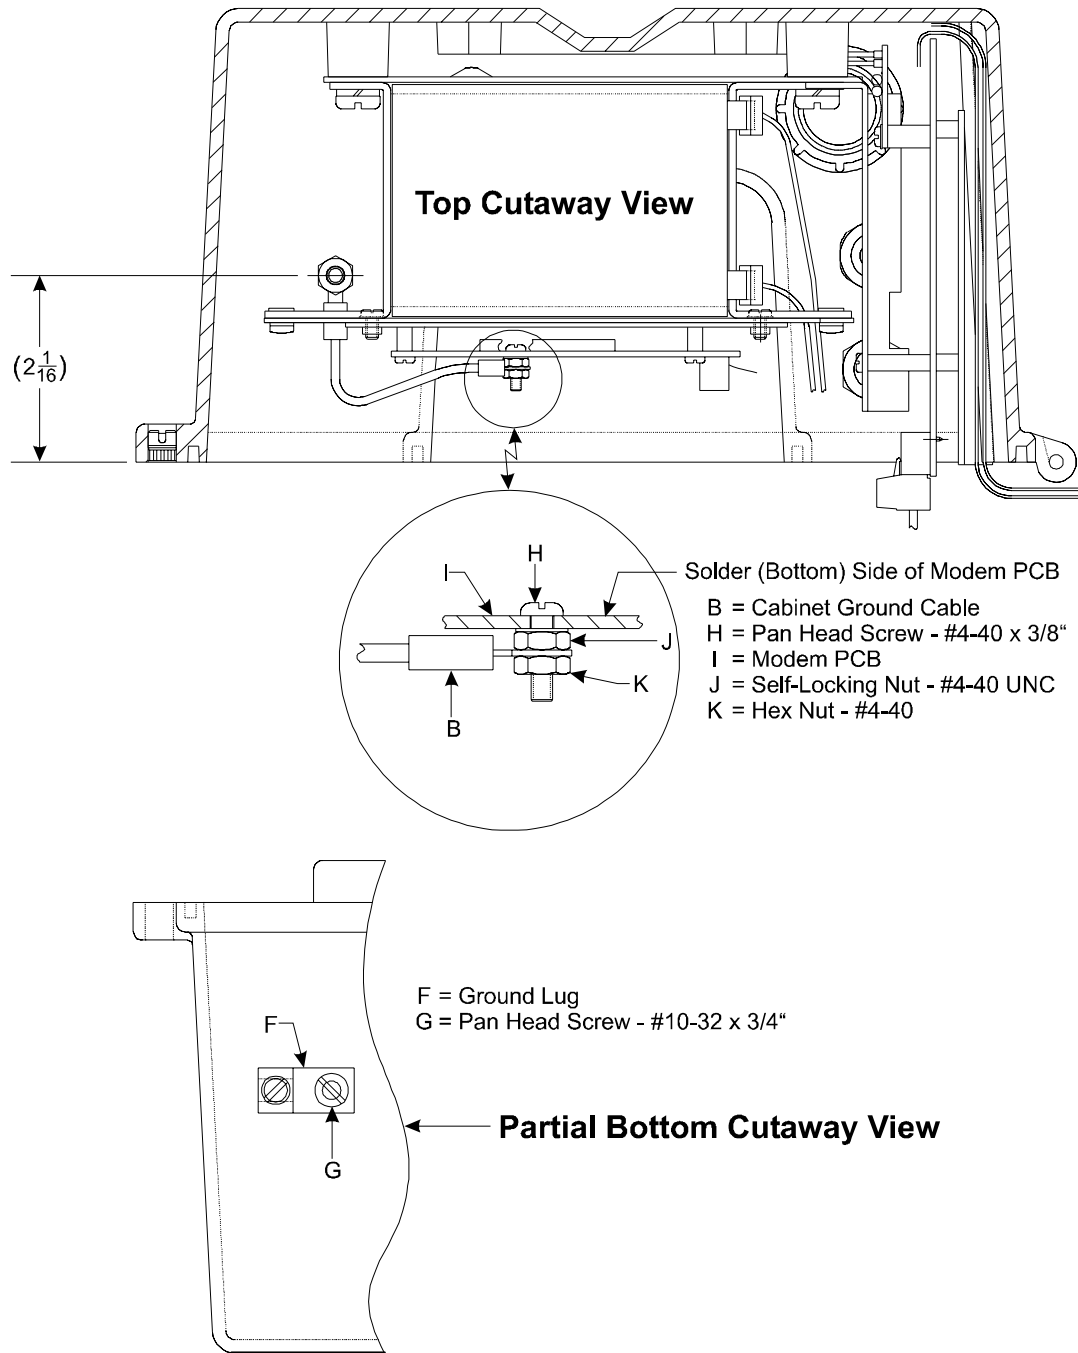

Figure 2 - Modem Grounding Kit Installation Drawing #1
- Cabinet Ground Cable (Item B – Figures 2 & 4)
- Ground Lug (Item F – Figures 2 & 4)
- Pan Head Screw - #10-32 x 3/4" (Item G – Figures 2 & 4)
- Pan Head Screw - - #4-40 x 3/8" (Item H – Figure 2)
- Self-Locking Nut - #4-40 UNC (Item J – Figure 2)
- Hex Nut - #4-40 (Item K – Figure 2)
3. Referring to Figures 2, 3 & 4, install the Ground Lug (Item F). The Ground Lug will be situated on the bottom of the enclosure and is to be secured via a Pan Head Screw (Item G), a washer (Item D) and a Self-Locking Nut (Item C) as illustrated in Figure 4. ***Note: The inside of the enclosure has been painted with a conductive coating. This coating serves to provide an effective EMI/RFI shield. Connecting the Ground Lug to a known good earth ground will ground the modem and the TeleFlow enclosure. This coating can be easily and accidentally scraped away. Make sure that the Flat Washer (Item D) is installed prior to installing the Self-locking Nut (Item C) or the conductive coating may be scrapped off causing a loss of EMI/RFI shunt protection.***
4. Connect one end of the Cabinet Ground Cable to the Modem PCB as illustrated in Figures 2, 3 & 4. Figure 4 shows the location of the Modem Ground. This is the point where the modem's protective surge circuitry is to be connected to Ground. Connect the Modem Interface Cable to the 9-pin D-Type Connector (J5) on the bottom edge of the modem. Mount the modem onto the stand-offs on the Modem Mounting Plate. If required, install the modem (mounted on the Modem Mounting Plate) onto the Radio/Modem Mounting Plate (that in turn is mounted on the Battery Mounting Bracket).
5. Secure the other end of the Cabinet Ground Cable (Item B) to the Pan Head Screw (Item G) on the inside of the enclosure via the #10-32 Hex Nut (Item A) as illustrated in Figures 2, 3 & 4.